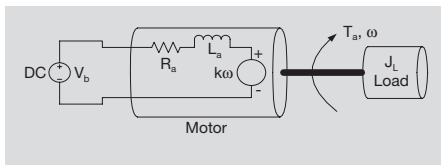

**Figure A.3 Model for Deriving the Motor Time Constant**
**WARNING:** when the voltage is reversed to decrease the motor speed or to reverse the motor shaft rotation the initial current is GREATER than the stall current because the back emf voltage is ADDED to the reversed terminal voltage as described in Section A.4 and illustrated by Figure A.3.